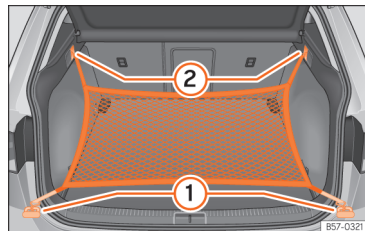

Fig. 175 In the luggage compartment: rings ① and hooks ② for attaching the net bag.
- Secure the short net hooks to the fastening rings >>> Fig. 175 ① >>> ⚠. The bag zip should be facing upwards.
- Secure the straps in the bag hooks ②.